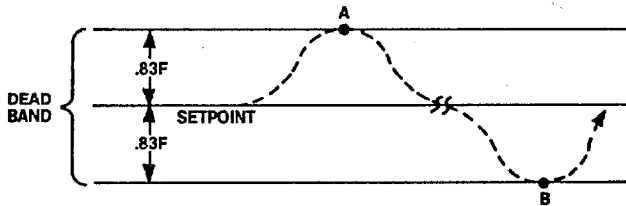

Figure 13
(Figure 13) Assume a rising system load causes the error temperature to exceed the plus side of the control band (A).